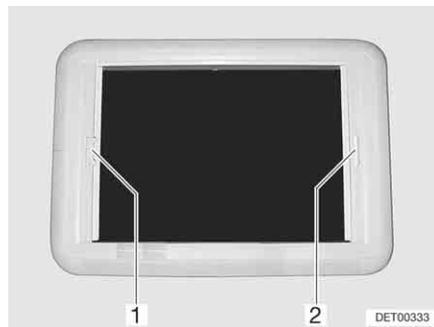

Fig. 70 Heki skylight, blind lock
- Pull blind at the handle (Fig. 70,2) to the opposite handle of the insect screen (Fig. 70,1) and allow to engage.
- With your other hand, push the unlocking bar on the handle of the insect screen (Fig. 70,1) towards the handle. The lock is released.
- Pull insect screen at the handle (Fig. 70,1) to the opposite handle of the blind (Fig. 70,2) and allow to engage.
- Hold the insect screen (Fig. 70,1) by the handle and push the unlocking bar towards the handle. The lock is released.